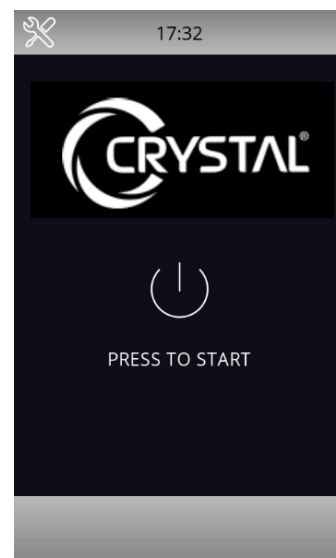

Figure 4
- To turn on the unit, press the button located in the center of the Standby screen (Figure 4).